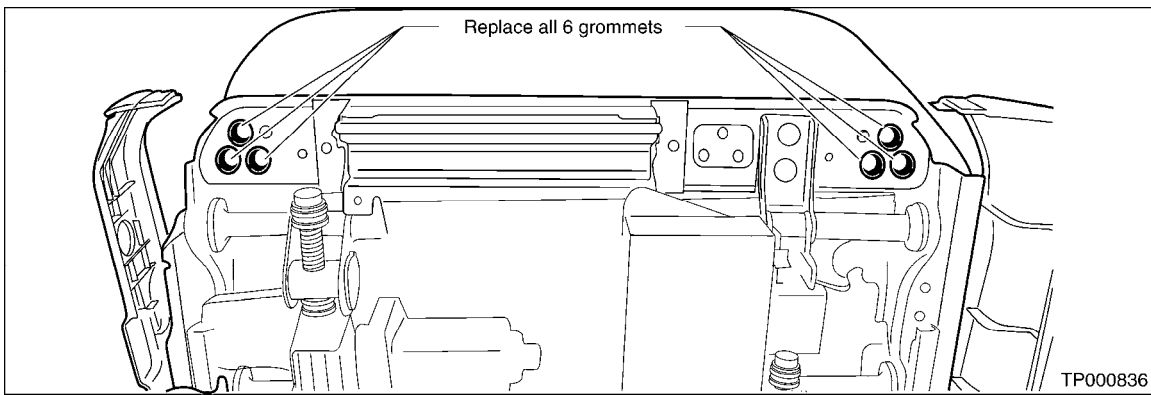

Figure 10
19. Replace all six rubber grommets (3 to each side) from the kit (see Figure 10).